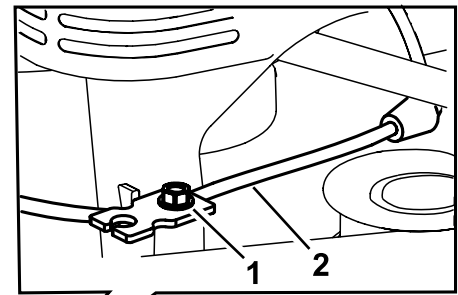

Figure 39
5. Loosen the cable-clamp screw (Figure 39).